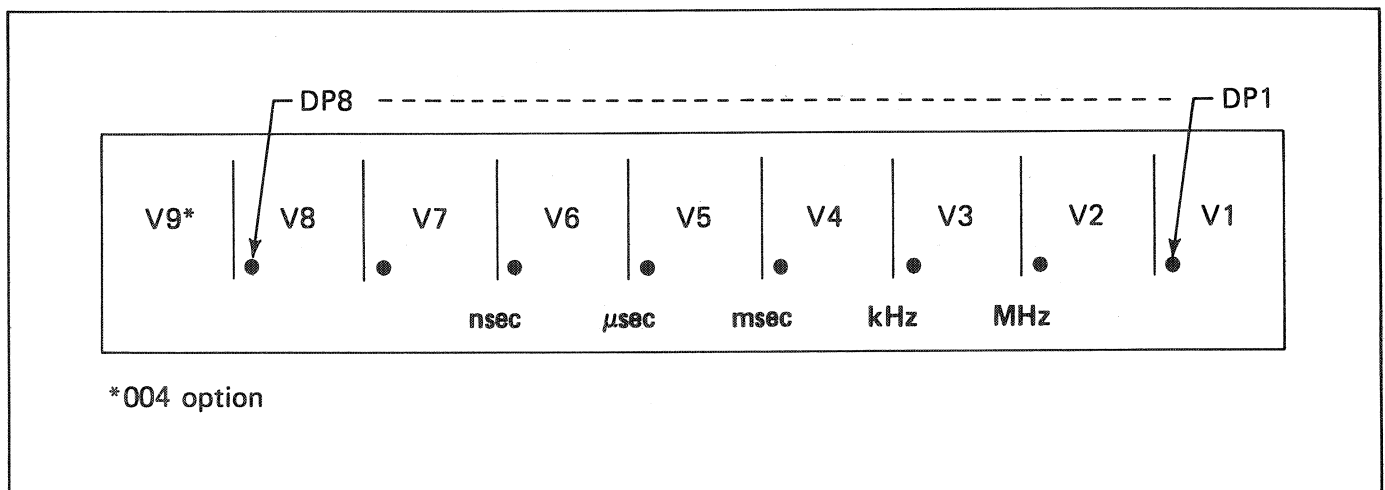

Figure 2.1
2.4 The recorder produces a binary coded representation of the instrument display. This includes the numeric readout, the decimal position and the annunciator as shown in figure 2.1.